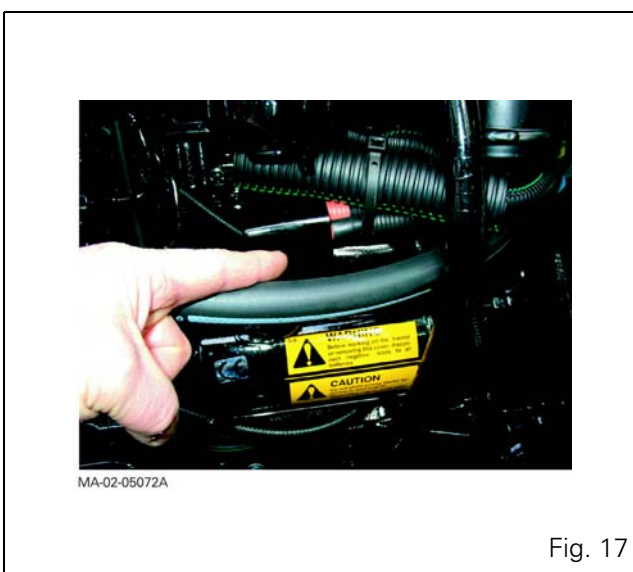

Fig. 17
- 40.** Disconnect the cables connected to the starter positive terminal (Fig. 17).